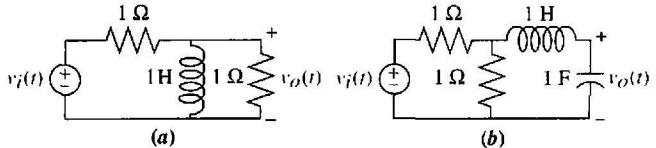

FIGURE P2.3
16. Find the transfer function, $G(s) = V_o(s)/V_i(s)$, for each network shown in Figure P2.3. [Section: 2.4]